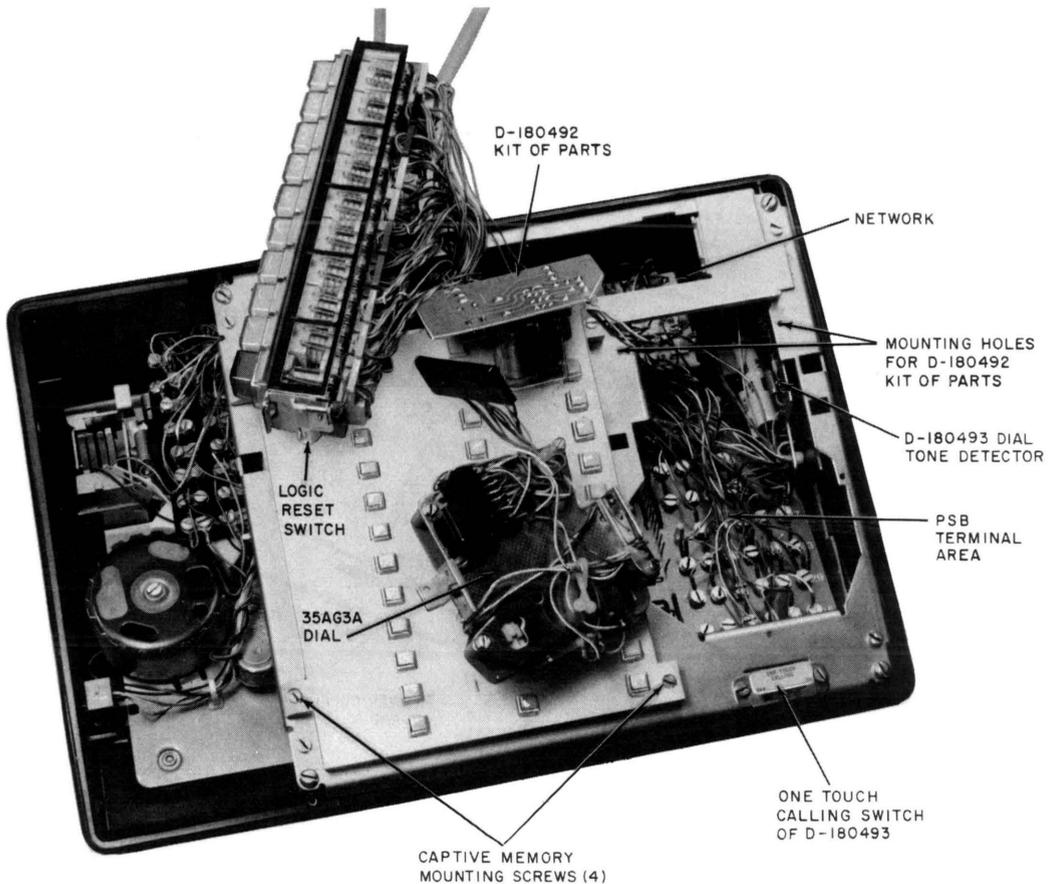

Fig. 4—Telephone Set With Dial Removed to Show Terminal Area
- (b) Under the faceplate, inside the set (Fig. 4 and 5):
- Power supply (PSB) terminal area (Fig. 4)
- Network (Fig. 4)